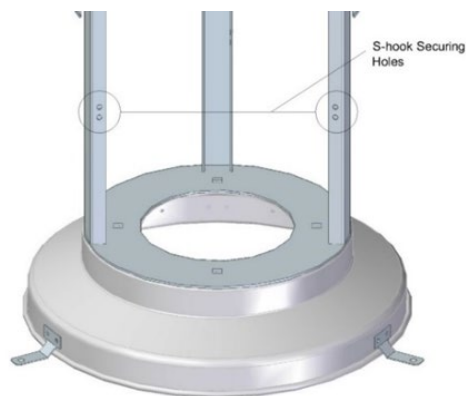

Figure 9: Secure Propane Cylinder with Mounting Holes and Bungee Cord
2. Secure the Propane-Gas cylinder to the Base using the Bungee cord. Hook one side of the Bungee cord to the mounting holes on either the right side or the left side, as shown in Figure 9. Make sure the Propane-Gas cylinder is in the upright position. Feed bungee through the handle of the Propane cylinder, then hook the bungee on the other set of securing holes.